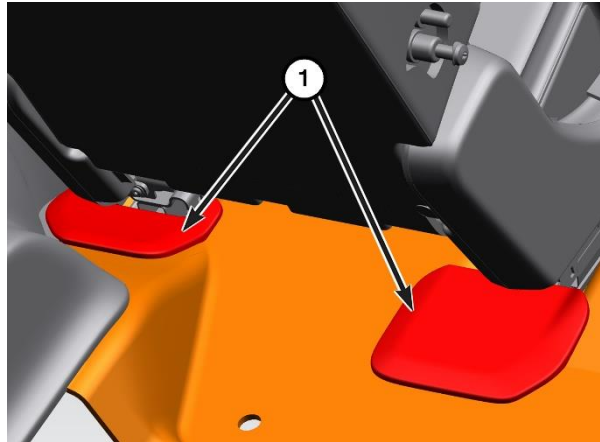

Figure 71 – Seat Track Trim Covers
7. Using a trim tool, remove the seat track trim covers behind the second row seat (1) (Figure 71).